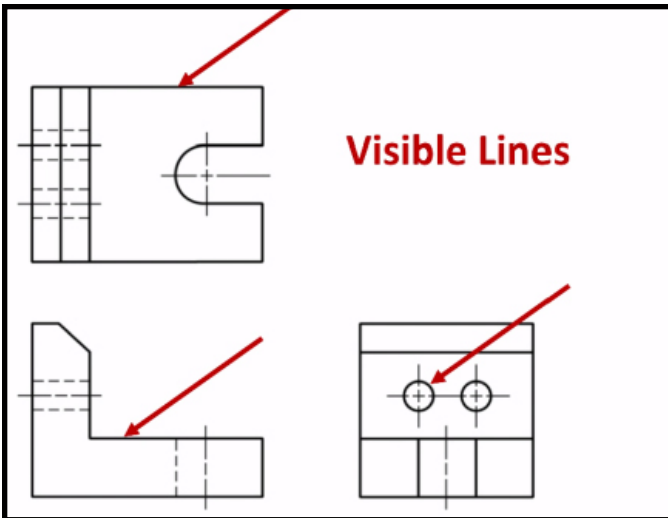

Figure 1.19 - Visible Lines
- Visible lines (figure 1.19) show the features of the object.